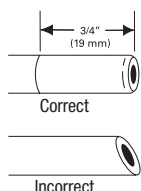

Fig. 2
3. Measure 3/4" from the end of each remaining piece of tubing (inlet end and outlet end) and mark with a pencil. See Fig 2. Check for roundness, smoothness, cuts, nicks, flat spots and sharp edges.